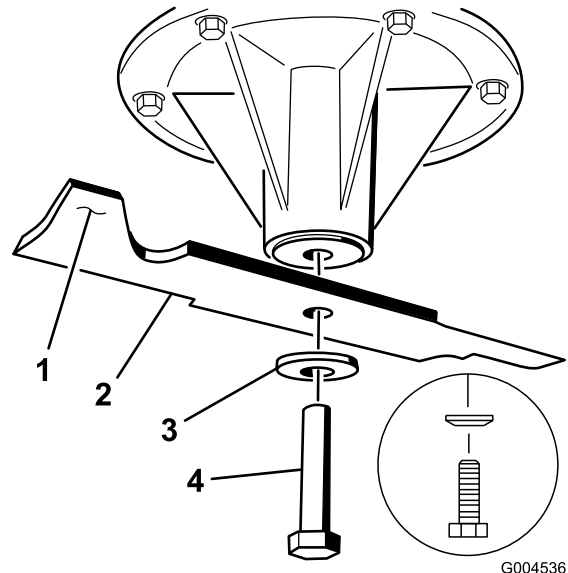

Figure 92
2. Remove the blade bolt, curved washer, and blade from the spindle shaft (Figure 92).